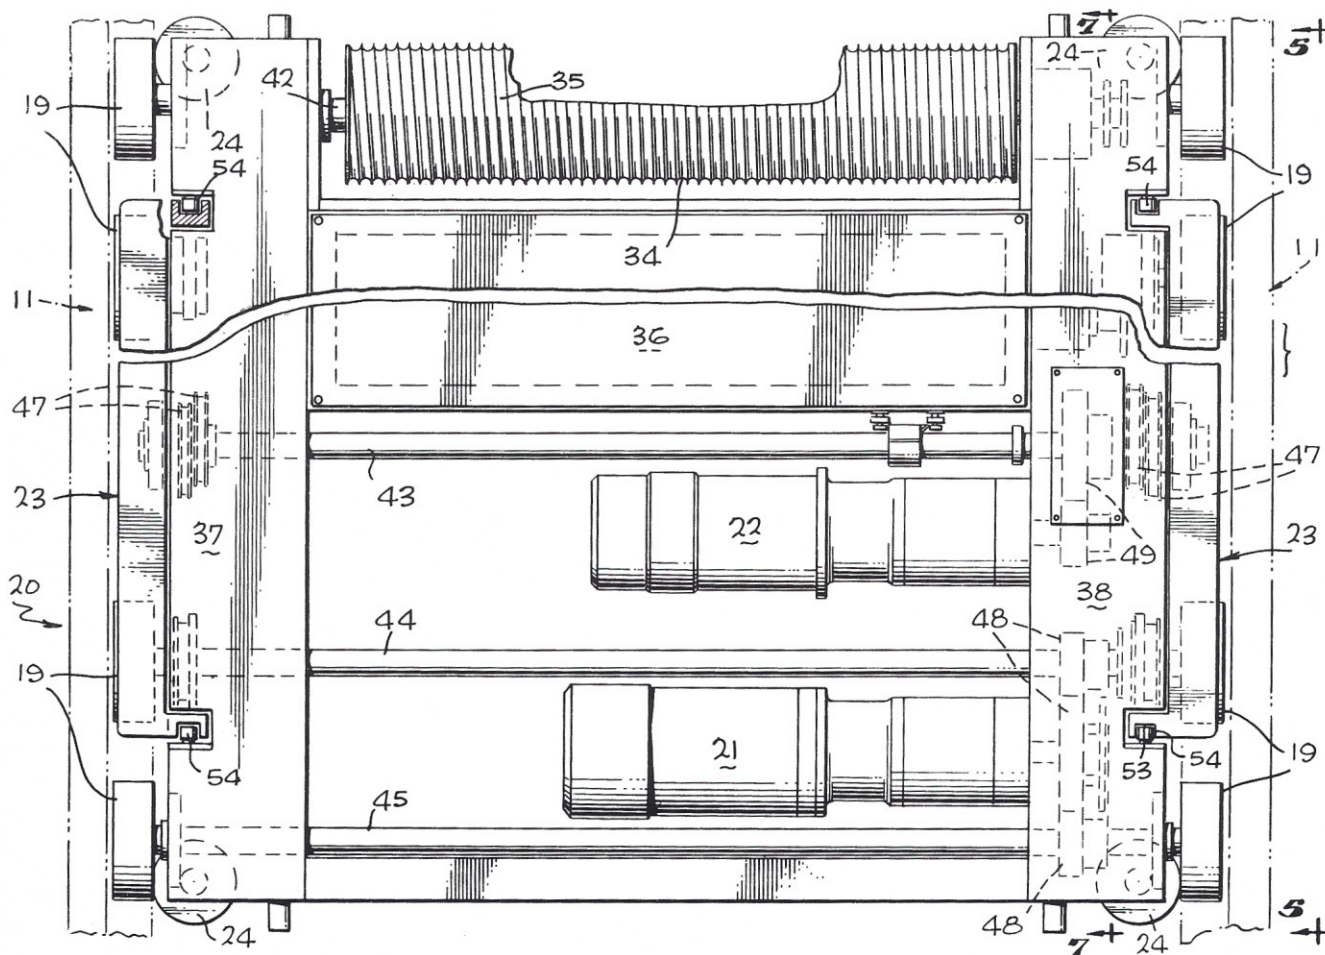

Figure 4. Helical grooves are built into the cable drum. These grooves automatically guide the cable into the proper winding position.
Figure 4 shows the cable drum (34) with its helical grooves. The cable is wound onto the drum along the grooves. This cable, in addition to carrying power, is also connected to the logic system (36). The drum's construction automatically guides the cable into its proper position as the cable is wound. This eliminates complicated feeding mechanisms which might otherwise be required.